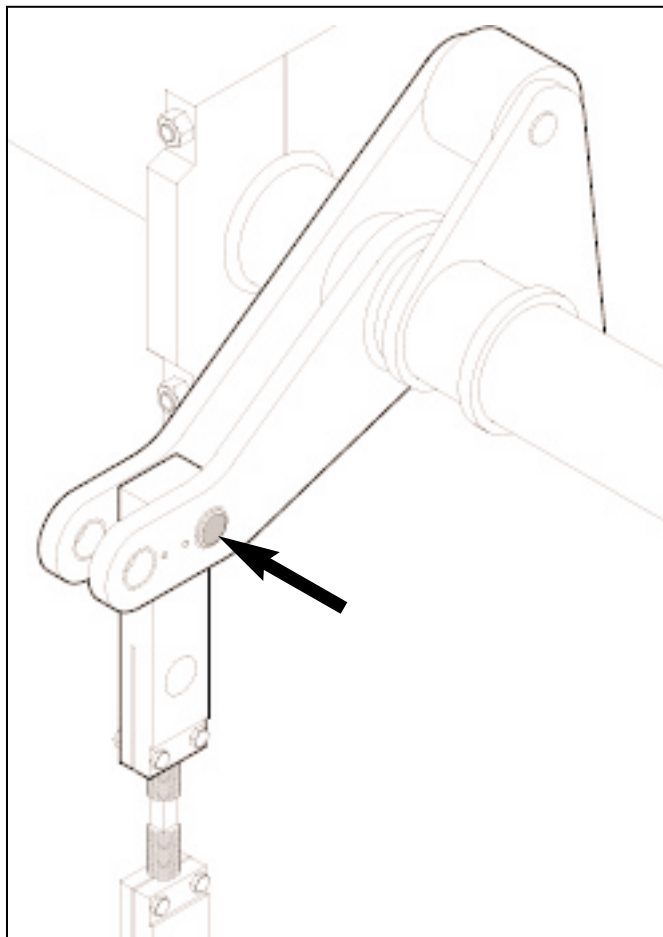

Figure 4.24 ADJUSTING STRIPPER HEAD ARMS
4.2.15 Position the pins in the inner holes of the stripper head shaft arms (see figure 4.24).